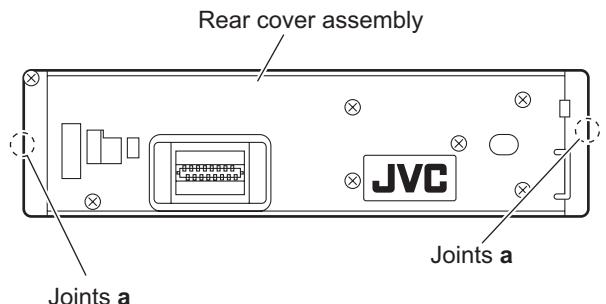

Fig.15
- Release the twelve joints **a** of the front panel assembly and remove the rear cover assembly. (See Fig.15)